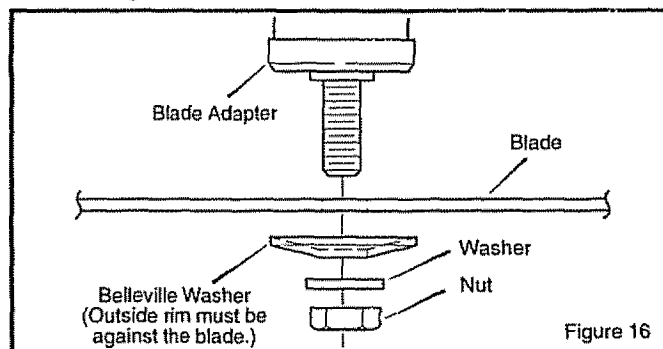

Figure 16
8. Fasten the blade with the original washers and nut. Make sure the outside rim of the Belleville washer is against the blade (Figure 16).